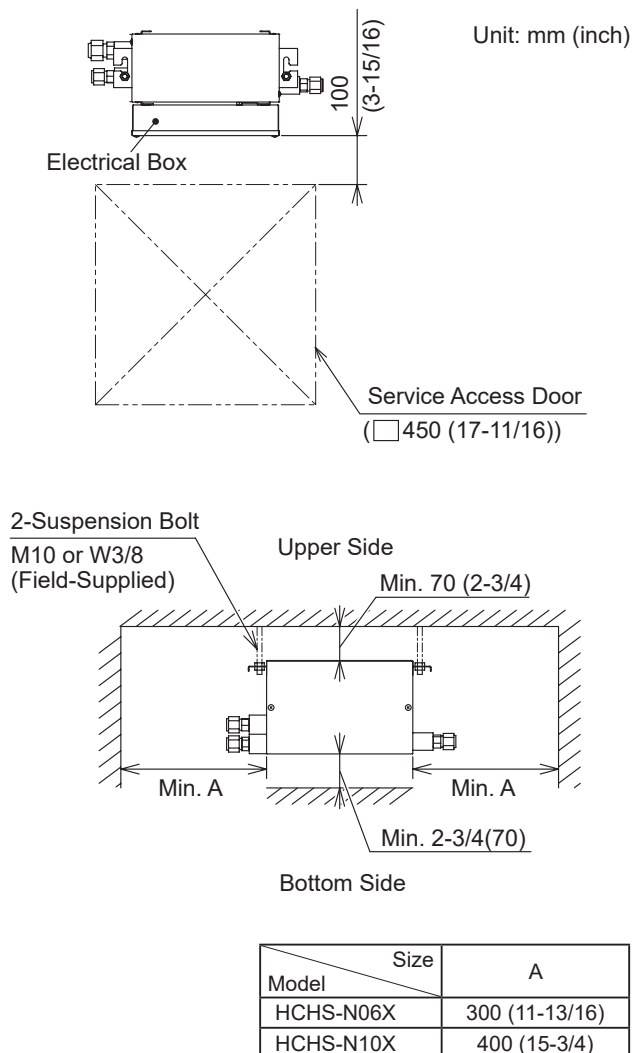

Figure 4.1 Service Space
- Install the Switch Box with a proper clearance around it for maintenance working space, as shown in Figure 4.1 below.